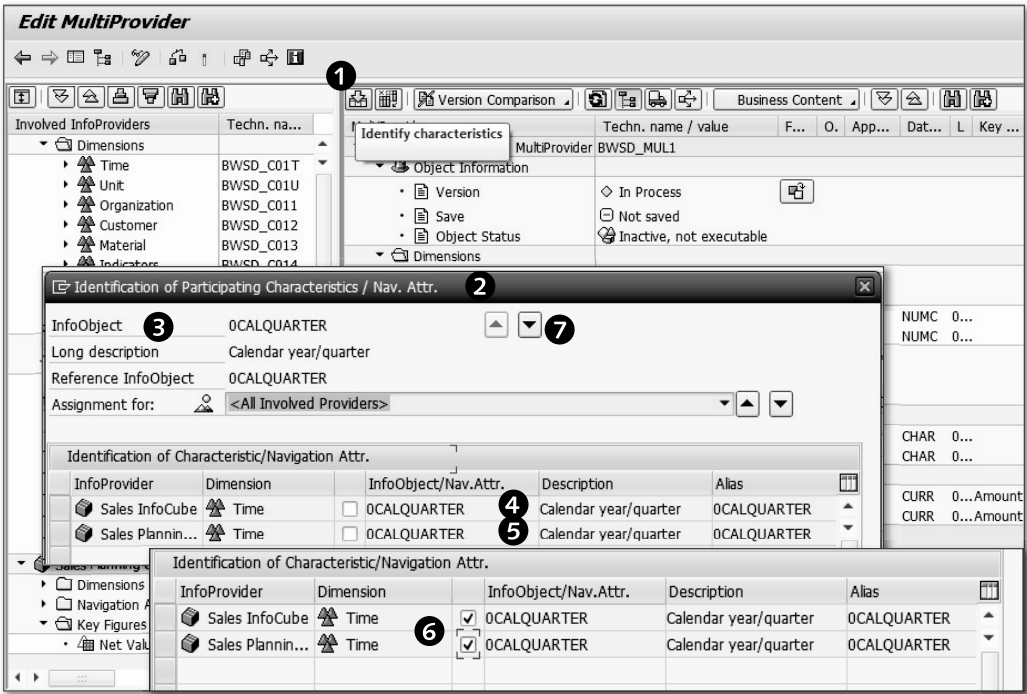

Figure 6.10 Edit MultiProvider: Identifying Characteristics
Click on the IDENTIFY CHARACTERISTICS icon, as shown in ❶ of Figure 6.10. The IDENTIFICATION OF PARTICIPATING CHARACTERISTICS/NAV. ATTR. box appears ❷. It shows each characteristic included in the MultiProvider and offers the matching characteristics or navigational attributes available from the included InfoCube.